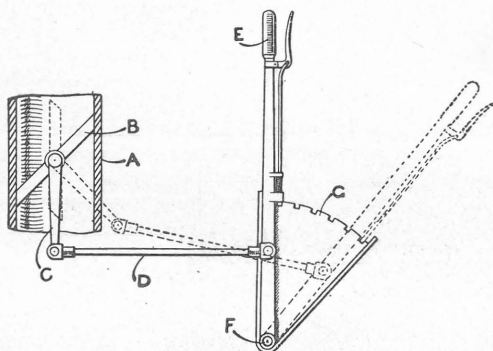

Fig. 1.—The "butterfly" throttle.
The speed and power of a steam engine can be controlled by means of a throttle valve, admitting more, or less, steam to the cylinders as may be required, and in exactly the same way a throttle can be fitted to the vaporizer or carburetter of a motor. Throttles take various forms. There is what is called a "butterfly" throttle, fitted in the inlet pipe, as shown in the sketch (Fig. 1). A is the pipe in section, the bottom end being supposed to be connected to the carburetter. B is the "butterfly," and in the position
throttle. It is attached to a control rod, which can be moved backwards and forwards, as shown in Fig. 1, by means of a hand lever. There is a port (K) cut in this sliding piston which, as the piston is moved over to the left, communicates with the outlet (F), and so allows gas to pass to the cylinders. In Fig. 2 this port, and also the extra air port, is shown closed, but in Fig. 3 the throttle is partly open. The extra air port is only just beginning to open, this being due to the end of the piston throttle overlapping it when closed. This is done purposely, because extra air is not required at low speeds. In Fig. 4, however, the throttle is fully open, and so is the extra air port, and air is shown rushing in to mix with the mixture coming from the jet.